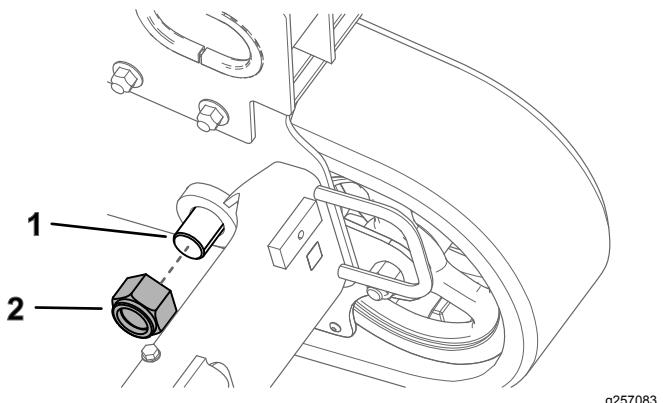

Figure 5
- Remove the nut from the front track pin shown in Figure 5.